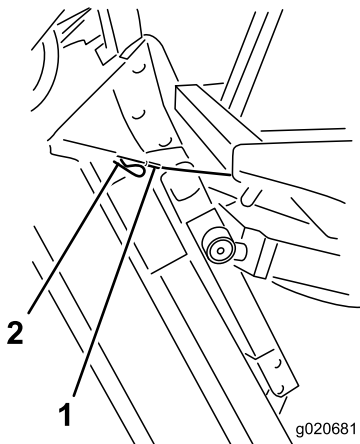

Figure 86
6. Hold the cutting unit upright, fit the cable end over the pin on the cutting unit lift arm, and secure it with the hairpin cotter (Figure 86).